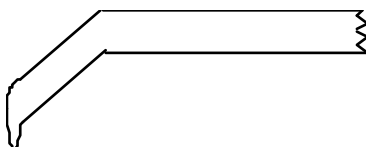

Fig. 3
5. Using the small flame to soften the glass at the appropriate site, put a slight bend in the glass tube so that it resembles those originally supplied (see Fig. 3). Be careful to keep the bend diametrically opposed to the Sylgarded glass bead.